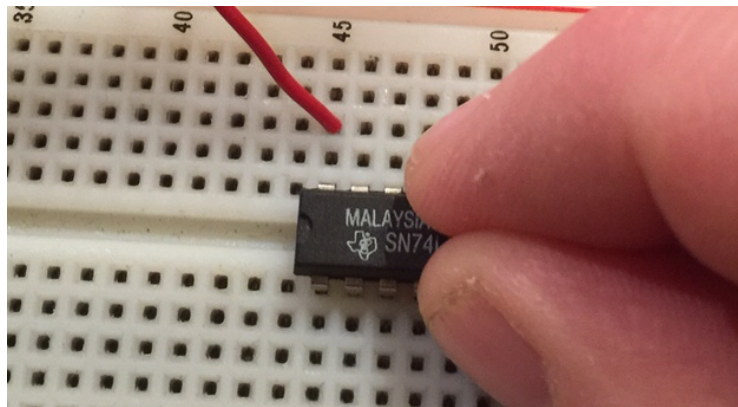

Figure 9: Removing an IC Chip by Rocking Gently on the Long Sides
- c. **Remove** circuit wires and gently rock the chip using your thumb and fore-finger on the long-sides of the chip. **See** Figure 9 for an example of removing a chip.